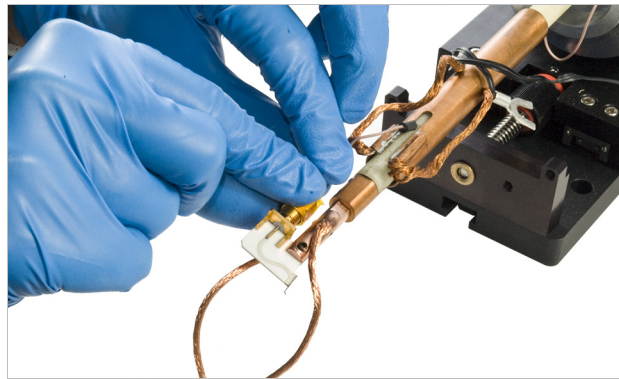

FIGURE 3-36 Disconnect the SMA
2. Disconnect the SMA connector. The strain relief to the SMA connector (on the cryogenic coaxial cable) must be held in place with tweezers or your fingers while removing the SMA plug (FIGURE 3-36).